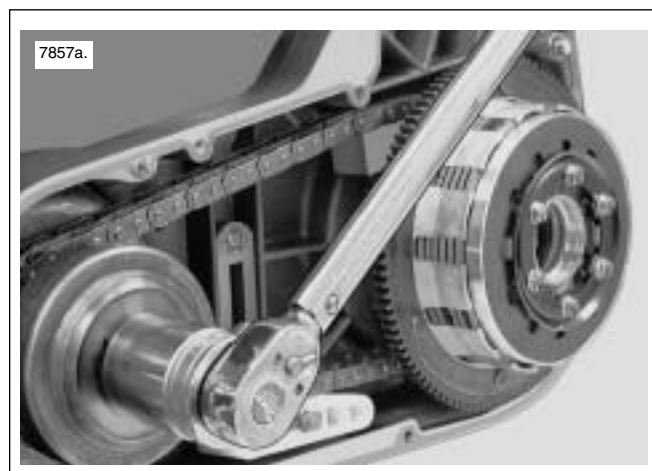

Figure 2. Tightening To 75 ft-lbs (101.7 Nm)
4. See Figure 2. Tighten sprocket shaft nut to 75 ft-lbs (101.7 Nm).